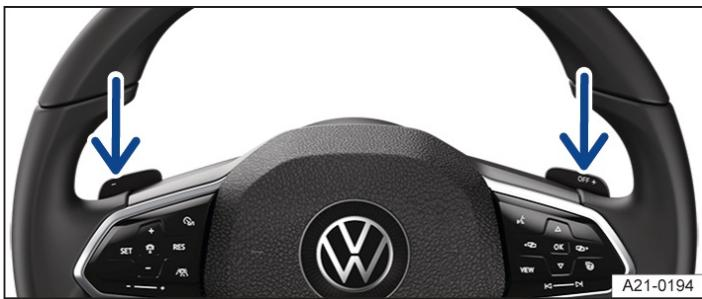

Fig. 2 Steering wheel with paddles for Tiptronic.
1. Pull the right paddle towards the steering wheel to change up a gear → *Fig. 2*.